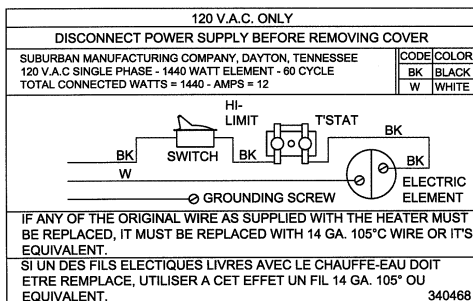

Figure 9
- D.** Check rating plate and wiring diagram (Figure 9) before proceeding. Install a fused safety switch or circuit breaker of adequate capacity between heater and electrical power source. Attach the black and white wires from the fused switch or breaker to corresponding colored wires in heater junction box. A green wire from a well grounded source must be attached to the green nut in the junction box.